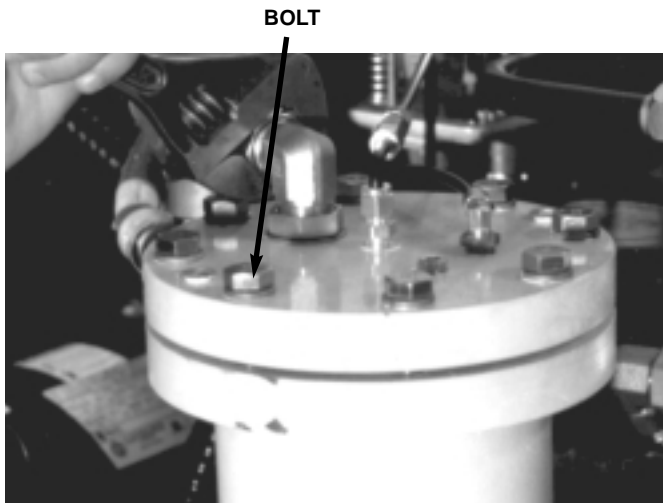

FIGURE 4.13-2 TANK COVER REMOVAL
2. Remove tank cover bolts and cover (See Figure 4.13-2).